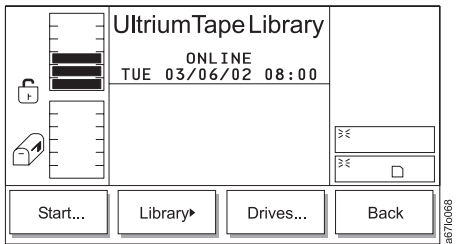

Figure 4-199. Service Menu
2. Press the button below the **Service** softkey. The Service Menu displays (see Figure 4-199 on page 4-108).